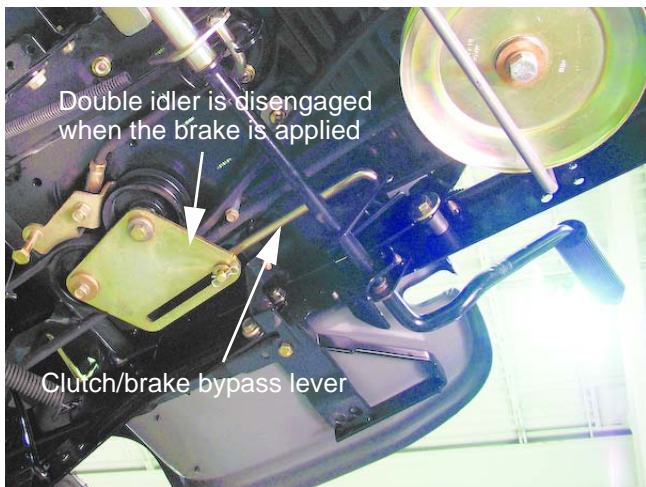

Figure 5.20
- When depressed, the clutch/park brake lever applies the brake and locks the double idler belt control assembly so that it cannot engage the drive belt. See Figure 5.20.